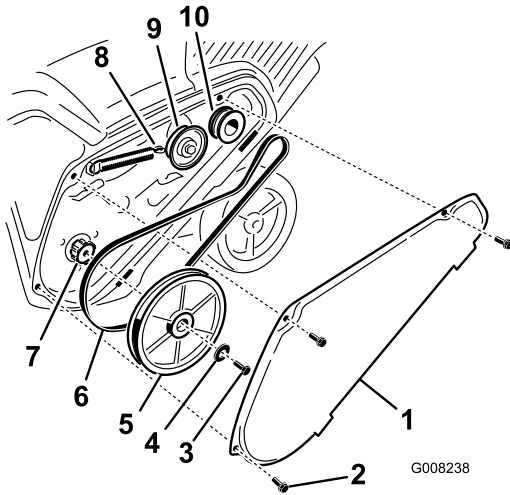

Figure 27
1. Remove the drive-belt cover by removing the 3 bolts as shown in Figure 27.
2. Unhook the brake spring from the idler arm to release the belt tension (Figure 27).
3. Remove the screw and curved washer that holds the rotor pulley (Figure 27).
4. Remove the rotor pulley and the drive belt (Figure 27).
Note: Route the new drive belt first around the engine pulley, then the idler pulley, and finally around the loose rotor pulley positioned just above the rotor shaft (Figure 27).
6. Install the rotor pulley onto the rotor shaft (Figure 27).
7. Install the curved washer and the rotor-pulley bolt and tighten them securely (Figure 27).